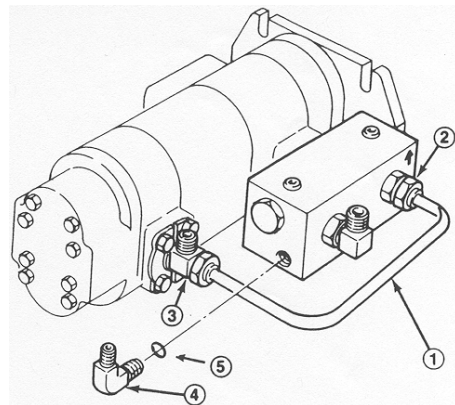

Figure 7
- Remove the bottom right plug from the end of the flow combiner. Install the 90 degree fitting and the O-ring into the port (Fig. 7).